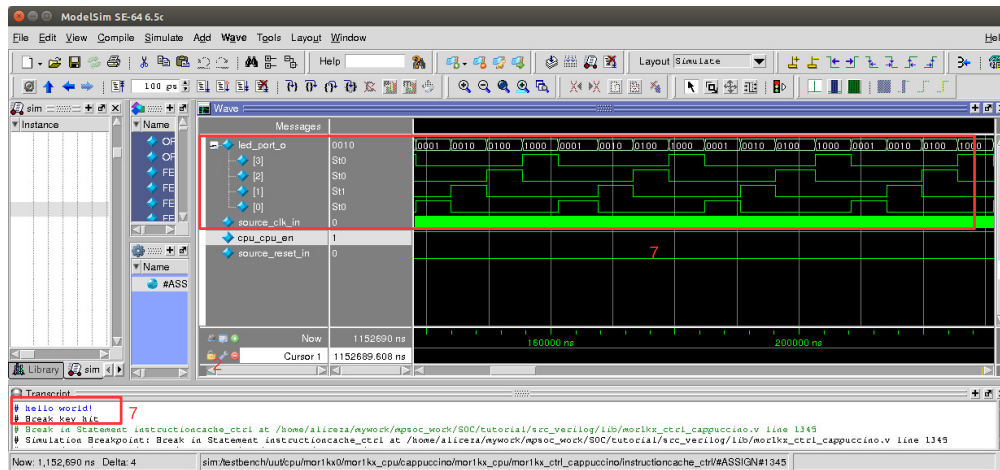

Figure 5.16: Modelsim output snapshot.
- Figure 5.16 shows the Modelsim simulation output snapshot. You must see the "hello world!" in the Modelsim terminal. The output LEDs also must be seen as cyclic shift to the left of a one-hot code in the Signal Waveform Window.